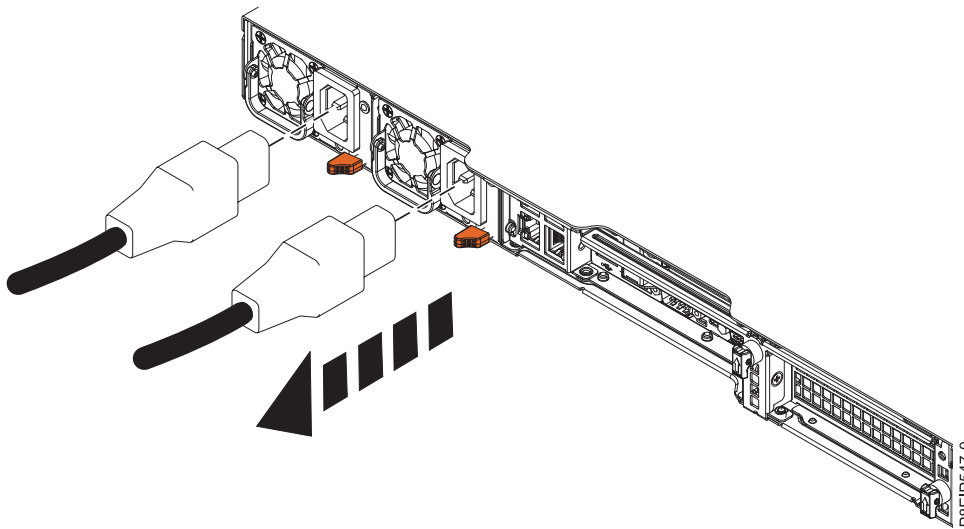

Figure 71. Removing the power cords from the system
2. Label and disconnect the power cords from the system unit as shown in Figure 71.